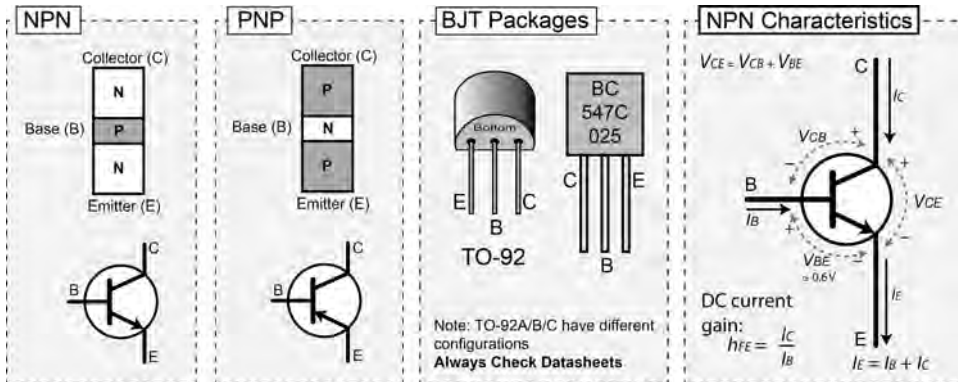

Figure 4-12: Bipolar junction transistors (BJTs)
Bipolar junction transistors (BJTs), usually just called *transistors*, are formed by adding another doped layer to a pn-junction diode to form either a p-n-p or an n-p-n transistor. There are other types of transistors, such as field effect transistors (FETs), that is discussed shortly. The name *bipolar* comes from the fact that the current is carried by both electrons and holes. They have three terminals, with the third terminal connected to the middle layer in the sandwich, which is very narrow, as illustrated in Figure 4-12.
Figure 4-12 presents quite an amount of information about transistors, including the naming of the terminals as the *base* (B), *collector* (C), and *emitter* (E). Despite there being two main types of BJT transistor (NPN and PNP), the NPN transistor is the most commonly used. In fact, the transistor examples in this chapter all use a single BC547 NPN transistor.
The BC547 is a 45V, 100mA general-purpose transistor that is commonly available, is low cost, and is provided in a leaded TO-92 package. The identification of the legs in the BC547 is provided in Figure 4-12, but please be aware
Let's examine the characteristics for the NPN transistor as illustrated in Figure 4-12 (on the rightmost diagram). If the base-emitter junction is forward biased and a small current is entering the base (I_B), then the behavior of a transistor is such that a proportional but much larger current ($I_C = h_{FE} \times I_B$) will be allowed to flow into the collector terminal, as h_{FE} will be a value of 180 to 520 for a transistor such as the BC547. Because I_B is much smaller than I_C , you can also assume that I_E is approximately equal to I_C .